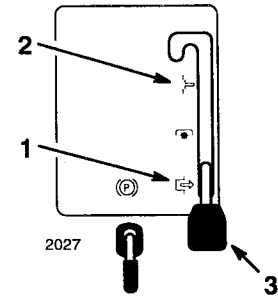

Figure 9
4. Move the blade control (PTO) to "DISENGAGED" (Fig. 9).